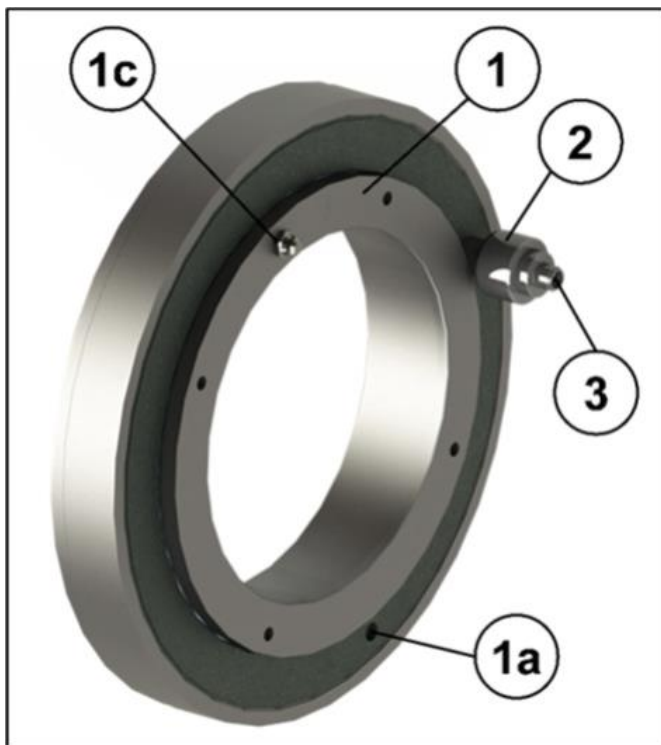

Figure 1: Bearing force transducer
Figure 1 shows the typical layout:
The bearing force transducer (1) is inserted into the correspondingly dimensioned mounting holes (2) of the bearing position and secured against movement (3) using the features mentioned (see Fig. 1). A defined force application surface (4) is located on the inside diameter of the bearing force transducer. The force F applied there is transmitted to the measuring electronics by evaluation of the resulting deformation of the measuring body and output as an electrical signal.